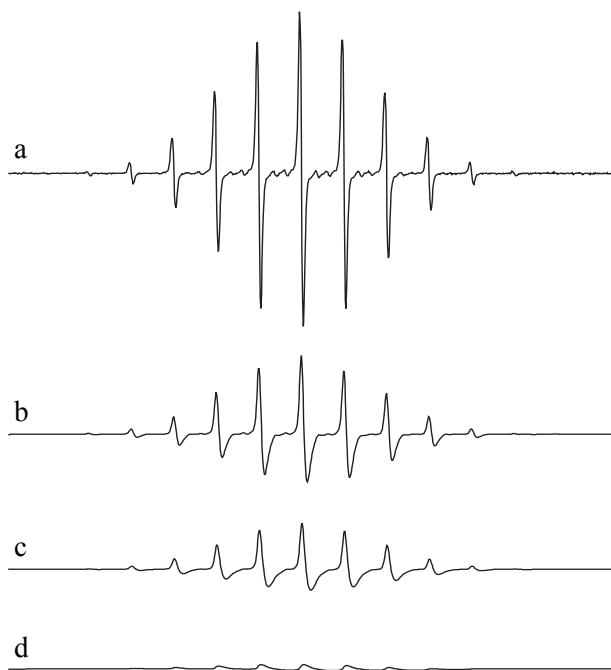

Figure 8-3 The effect of using a progressively longer time constant (a-d) on an EPR spectrum.
- **Optimize the time constant for the selected conversion time.** The time constant filters out noise; however, if you choose a time constant that is excessively high relative to your sweep time, you may actually filter out your signal! You should adjust your time constant to “fit” the conversion time you have selected. These two parameters are actually very related because the conversion time will determine the total sweep time. You need to use a time constant that will be sufficiently long to filter out undesirable noise yet short enough that you do not distort your signal. Therefore, if you want to use a longer time constant you will need to increase the scan time as well. Figure 8-3 shows the effect of progressively increasing the time constant while maintaining the same sweep time. All the spectra are at the same scale. A safe rule of thumb is to make sure that the time needed to scan through an EPR signal (i.e. one EPR line) is ten times greater than the length of the time constant. A time constant that is 1/4 that of the conversion time will guarantee that your spectrum is not distorted. However, for samples limited by a low signal to noise ratio, you may want to make the time constant equal to the conversion time or greater.
- **Time constant too long for sweep time.** A larger time constant will begin to filter out the high frequency components of your signal. Consequently, if the sweep rate is too fast relative to the time constant, the spectrum will appear distorted and broadened. To avoid this problem make sure that the time required to sweep through one of your EPR lines is at least ten times the length of the time constant. (See Figure 8-3.)
- **Time constant too long for sweep time used.** A safe rule of thumb is that the time required to sweep through an EPR line should be ten times the length of the time constant. (See Figure 8-3.)